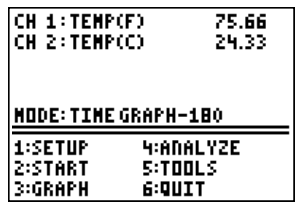

Figure 8
- In our Figures, the setting in current use is 180 seconds (See Figure 8). Since all we want in this experiment is enough variety of temperatures in going from a cold liquid to a hot liquid, we can use a 30 second interval instead.
- To change this setting, press Ψ again to get to the **SETUP** menu, scroll down to the **MODE** line, and press β (Figure 8).